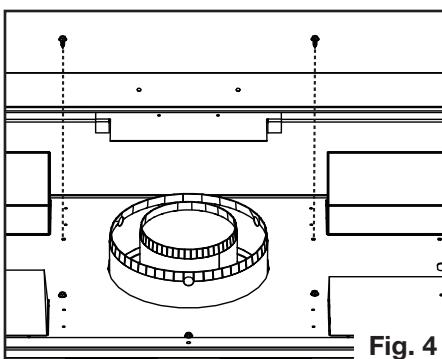

Fig. 4
4. Remove the fasteners as shown (**Figure 4**). DO NOT DISCARD FASTENERS